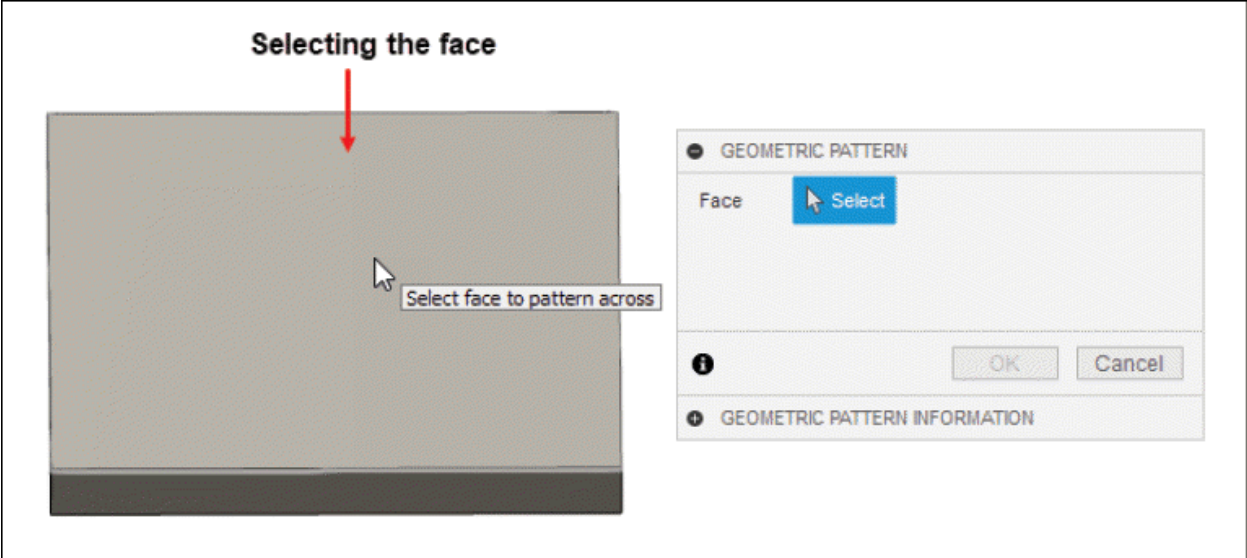
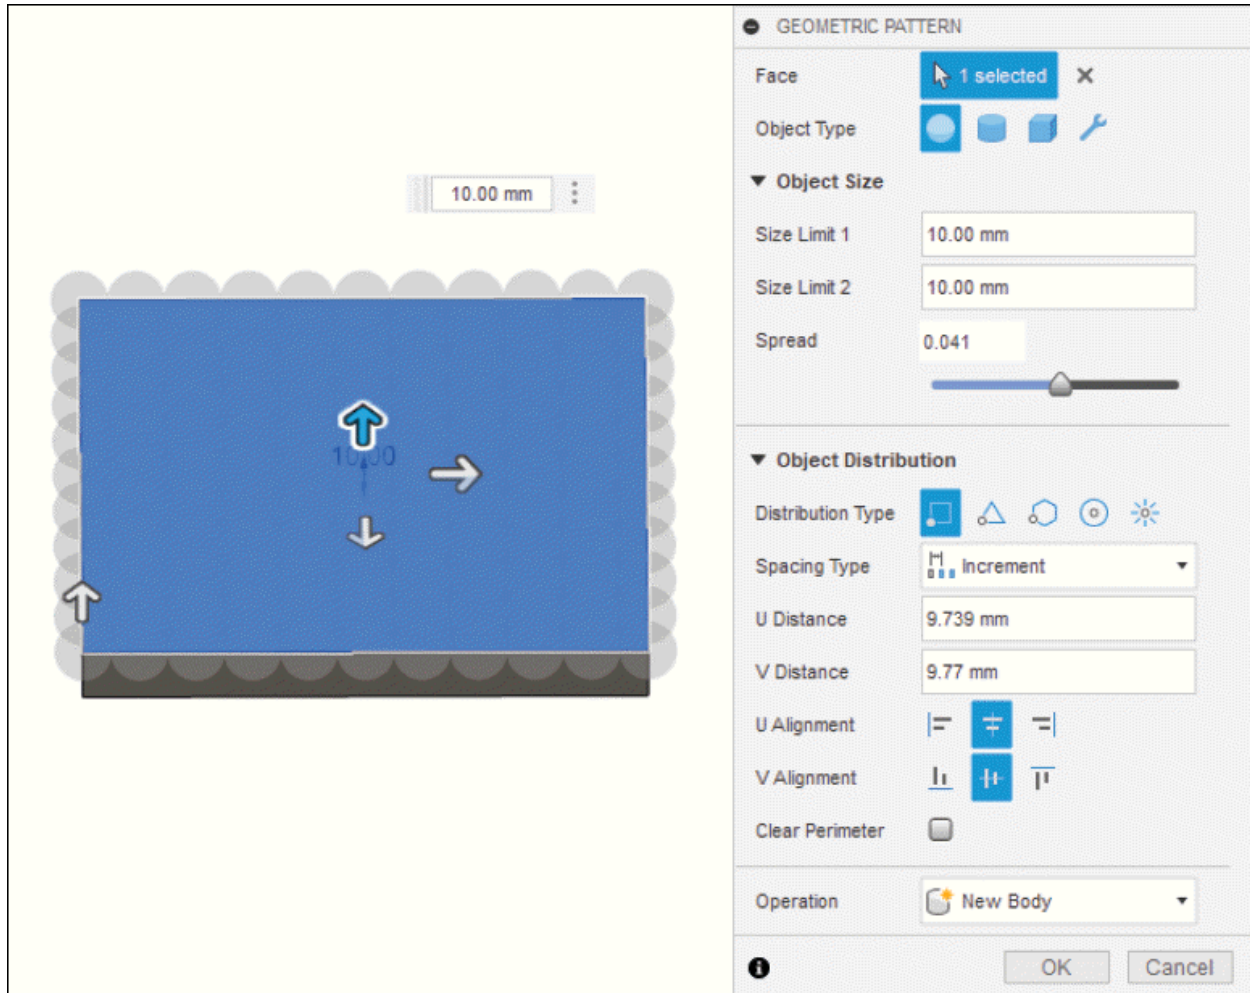

Figure-106. Selecting the face
Figure-107. Updated GEOMETRIC PATTERN dialog box
- The **Select** button of **Face** section is active by default. Select desired face on a solid body to create the pattern to it; refer to Figure-106. The updated **Geometric Pattern** dialog box will be displayed; refer to Figure-107.